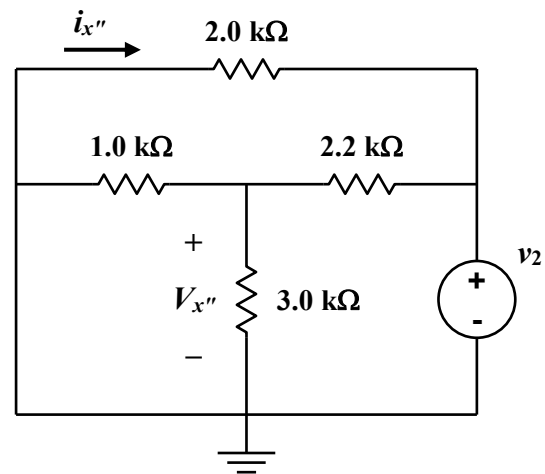

Figure 3.3
8. Construct the circuit shown in **Figure 3.3**. Use the **MASTER** supply as v_2 .